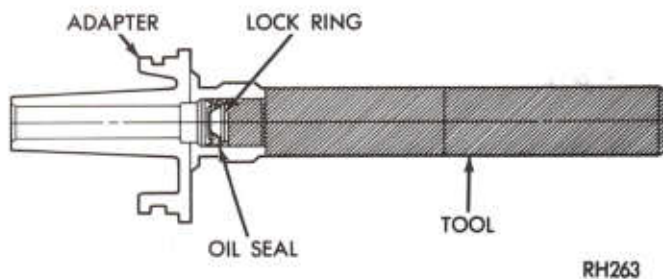

Fig. 3—Install Speedometer Pinion Seal
(3) If transmission fluid is found in cable housing, replace seal in the adapter (Fig. 1). Start seal and retainer ring in the adapter, then push them into adapter with Tool C-4004 until tool bottoms (Fig. 3).
(4) Note number of gear teeth and install pinion into adapter.